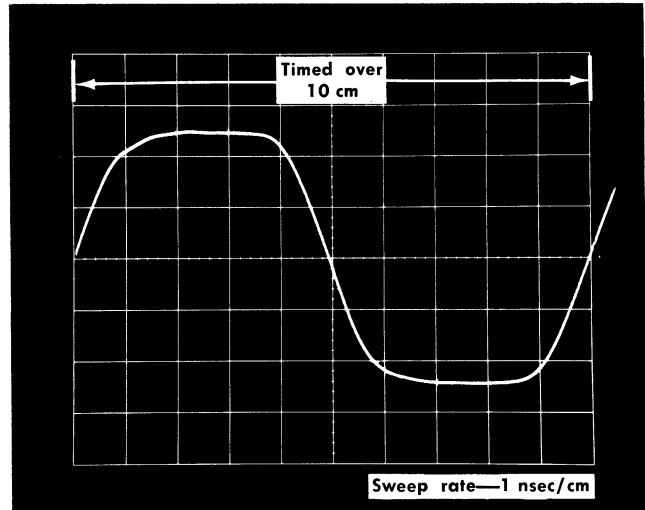

Fig. 5-23. Oscilloscope calibrator waveform for checking 1-nsec equivalent-time sweep rate.
- f. Position the waveform with the TIME POSITION control so the rising portion of the waveform crosses the edges of the graticule (see Fig. 5-23).